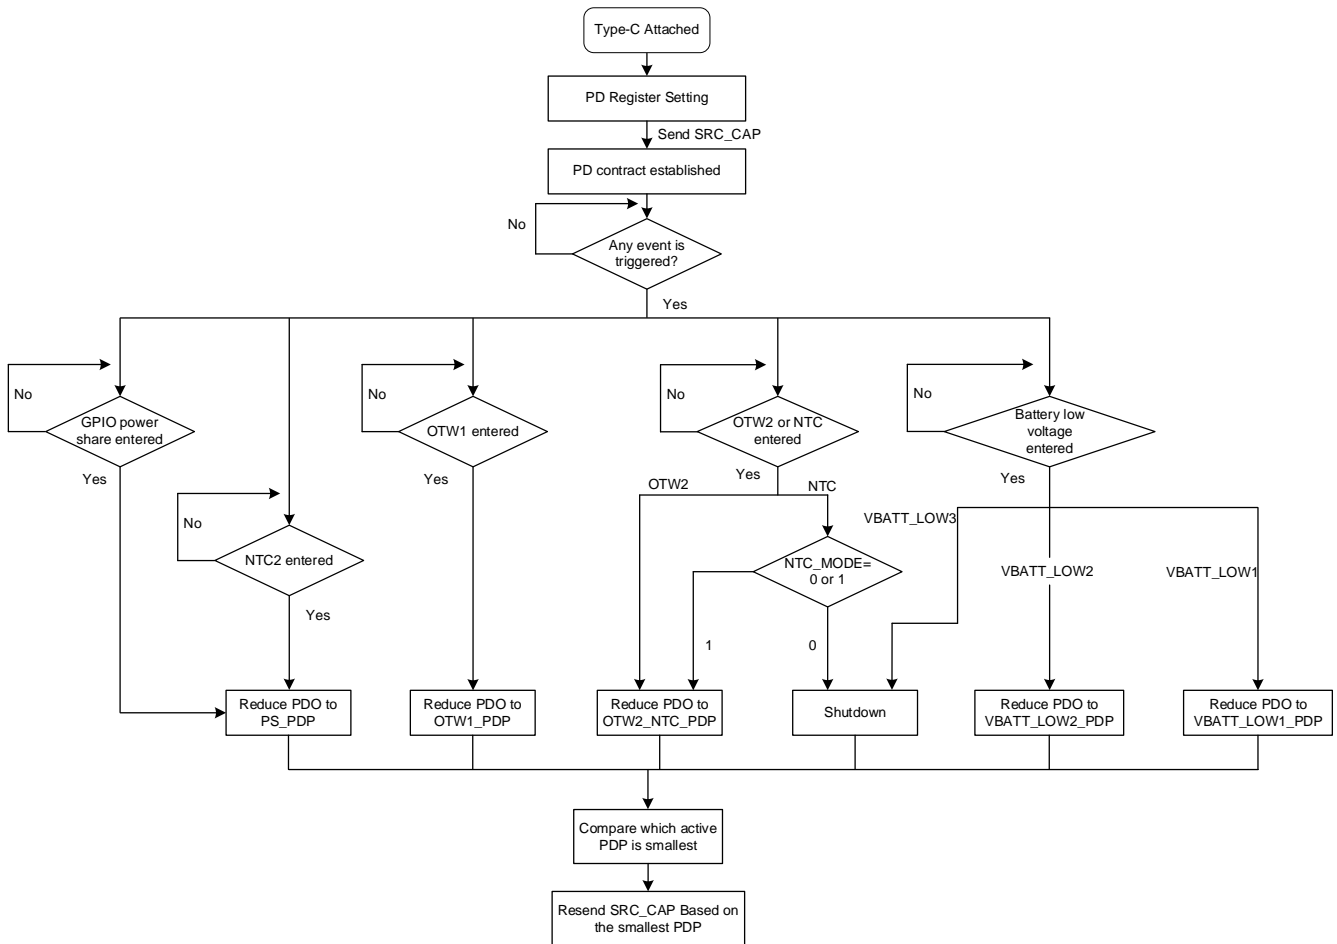

Figure 10-6 PDP State Machine
Figure 10-6 shows the PDP state machine.
(1) See figure10-6 for the GPIO2 power share PDP management. V_{BUS} exceeds 11.2V to trigger power share function (GPIO2 input voltage > 1.87V).
(2) TVS diodes are required to pass the $\pm 8kV$ contact and $\pm 15kV$ air discharge per IEC ESD specifications.